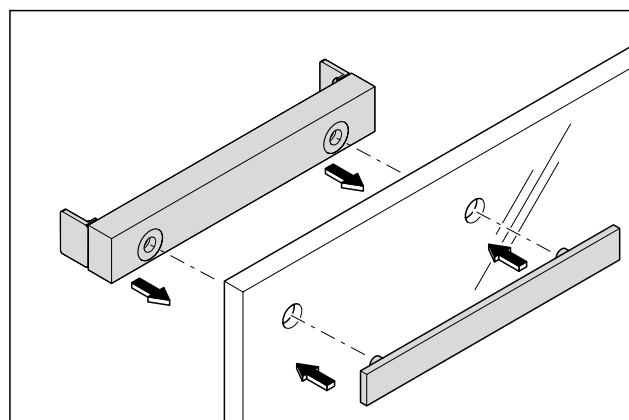

Abb. 11 Attach the screw-on plate and the counter-plate to the drill holes
2. Attach the screw-on plate on the hinge side (inside) and the counter-plate on the opposite side to the hinge (outside) to the glass door's drill holes (Abb. 11).